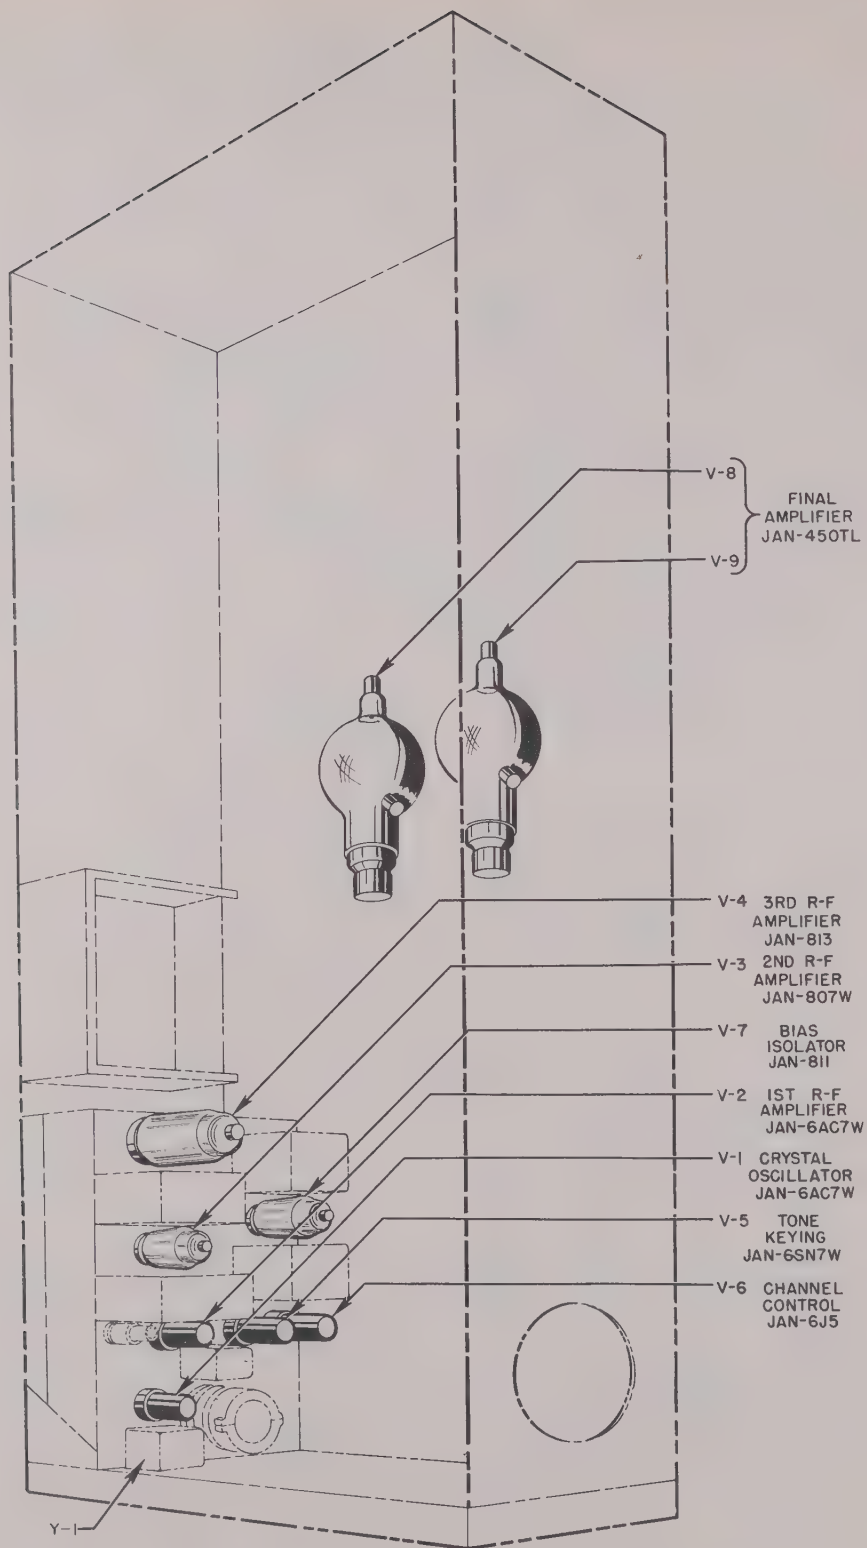

Figure 20. Radio Transmitter Model 96D, tube and crystal location diagram
b. Installation of Tubes and Crystal (fig. 20). Remove the tubes from their containers and check to see that all are in good physical condition. Select the crystal of the desired frequency. Pull the slide forward all the way to the end of its travel.
(1) Remove the cover over the crystal socket. Plug the crystal into the socket and replace the cover.
(2) The oscillator tube (V-1), Tube JAN-6AC7W, the first amplifier tube (V-2), Tube JAN-6AC7W, the second amplifier tube (V-3), Tube JAN-807W, the third amplifier tube (V-4), Tube JAN-813, the tone keying tube (V-5), Tube JAN-6SN7W, the channel control tube (V-6), Tube JAN-6J5, and the bias isolator tube (V-7), Tube JAN-811, are all mounted on the exciter unit. To insert the tubes, align the keys or guide pins of the tubes with the keyways or guides of the sockets. Push the tubes straight in until they are firmly seated in their sockets. Secure the tube clamps.